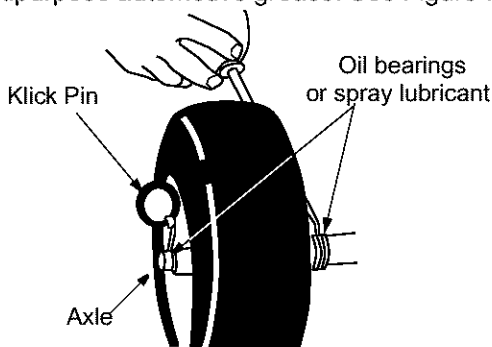

Figure 7
- **Wheels:** Oil or spray lubricant into bearings at wheels at least once a season. Pull klik pin, remove wheels, clean and coat axles with a multipurpose automotive grease. See Figure 7.